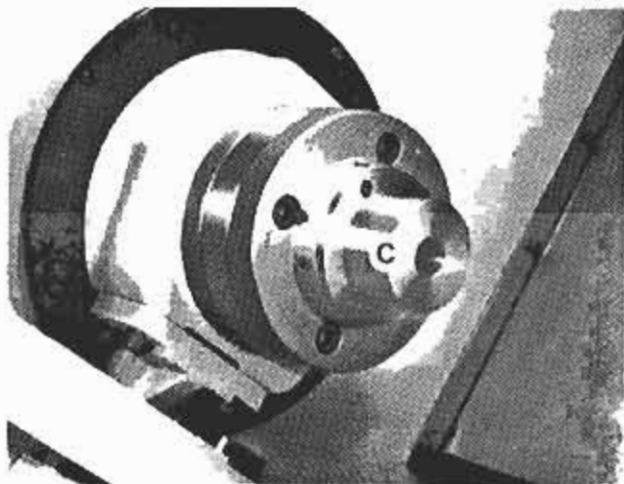

Figure 5 - Work Locating Stop
3. Mount the work locating stop "C", Figure 5, to the spindle collar with three screws.